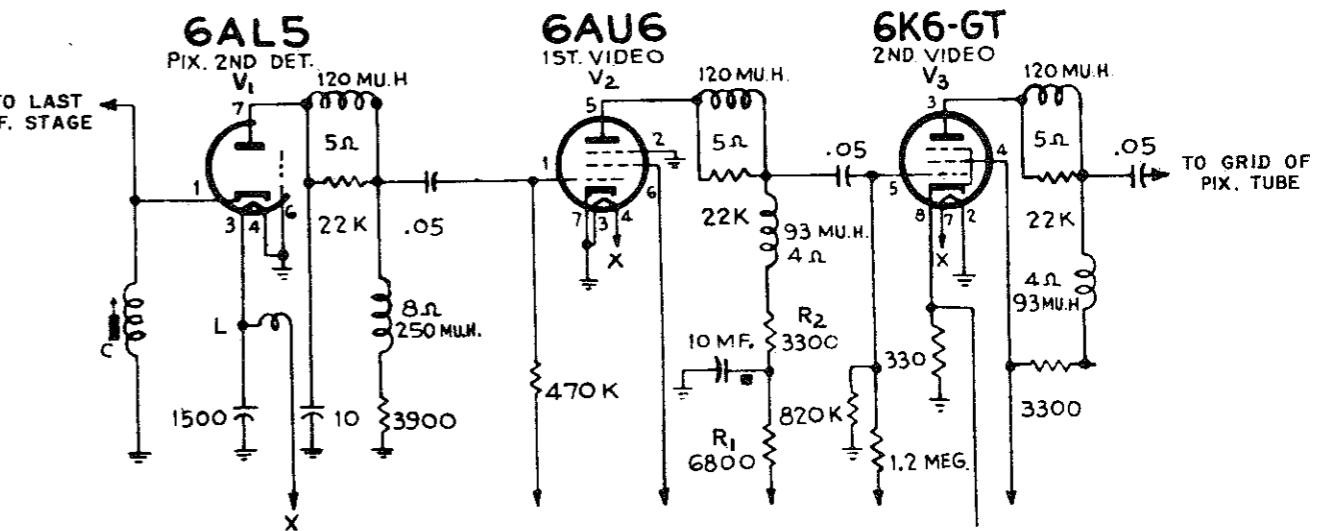

FIG. 33. The video detector and video amplifier of a typical TV set.
**The Video Amplifier.** Fig. 33 shows the video second detector and video amplifier stages of a typical TV set. To trace the signal through the video detector and video amplifier stages, connect the Ground terminal of the oscilloscope to the receiver B— and the Vertical Input terminal to the point to be checked. To view the field waveform, set the Sweep Selector to the 15-100 position; to view the line waveform, set the Sweep Selector to the 1-10KC position. Adjust the Fine Frequency control and the Sync control until you get two or three cycles on the scope. At the output of the video detector, the input of V2, and the output of V3, we will have negative-going sync pulses so the Sync Selector switch should be in the — position when viewing the signal at these points. At the output of V2 and the input of V3, we will have positive-going sync pulses, so the Sync Selector switch should be in the + position when viewing the signal at these points. Fig. 34A shows the pattern for a field waveform, and 34B the pattern for a line wave-
The video amplifiers in some TV receivers will vary somewhat from the circuit shown in Fig. 33. Some sets have only a single video amplifier stage; others use triodes instead of pentodes. In some sets the video signal is fed into the grid of the picture tube; in others it is fed to the cathode. However, regardless of the number of stages, the same procedures are used.
input terminals of the scope. Fig. 49 shows how a 60-cycle square wave might look after being fed through the video amplifier in Fig. 33. Although this shows some loss of low-frequency response, the picture would probably be satisfactory, because a certain amount of low-frequency response can be present without any objectionable effect on the picture quality.
Fig. 51 shows how a 500-kc square wave might appear after being passed through the video amplifier in Fig. 33. Again, although some loss of high-frequency response is indicated, the picture would probably be satisfactory.